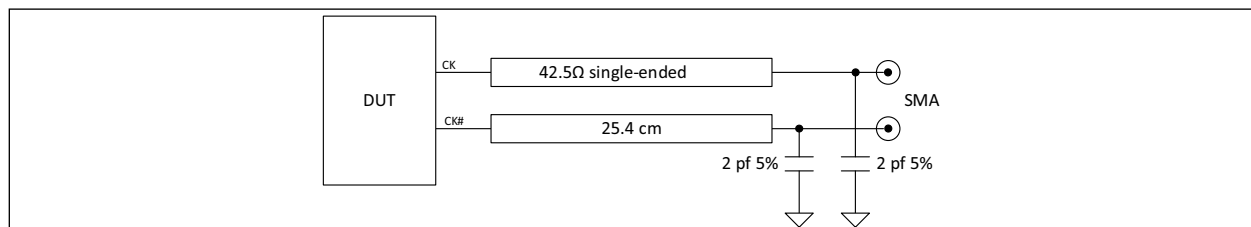

FIGURE 4-5: AC Test Load as per DB2000Q Specification.
- Note 1:** Measured into AC test load as per Figure 4-5.
Note 1: Measured into AC test load as per Figure 4-5.